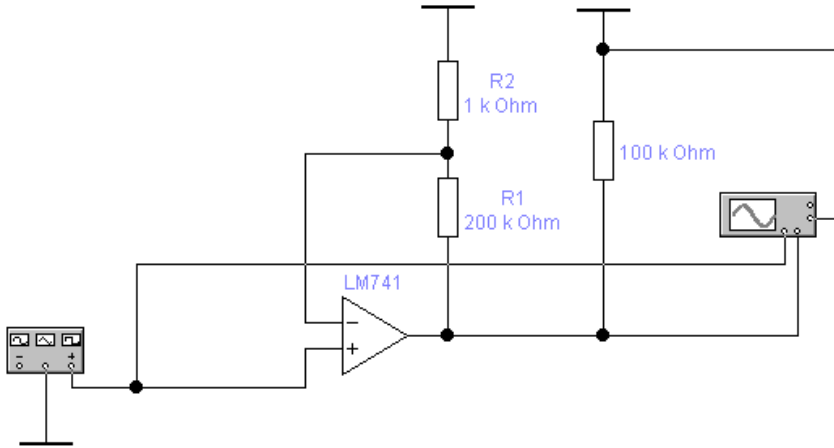

Figure 5.1 - Scheme of non-inverting amplifier
The gain of the circuit of the non-inverting amplifier on the opamp (Fig. 5.1) is determined by the formula:
- 1 Draw a pattern Fig. 5.1.